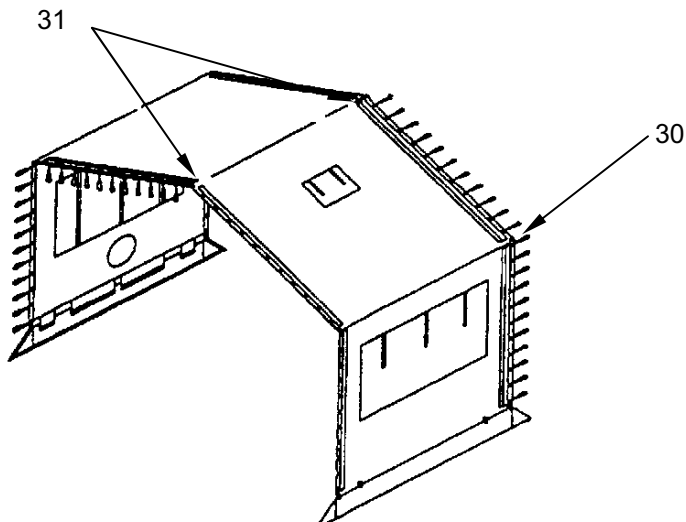

Figure 13. Identify Door and Window Section Components.
1. Identify the window section (**Figure 13, Item 30**).
2. Place window section (**Figure 13, Item 30**) next to extendable frame.
3. Identify large, spindle grommets (**Figure 13, Item 31**) at the center of each side of the window section (**Figure 13, Item 30**).